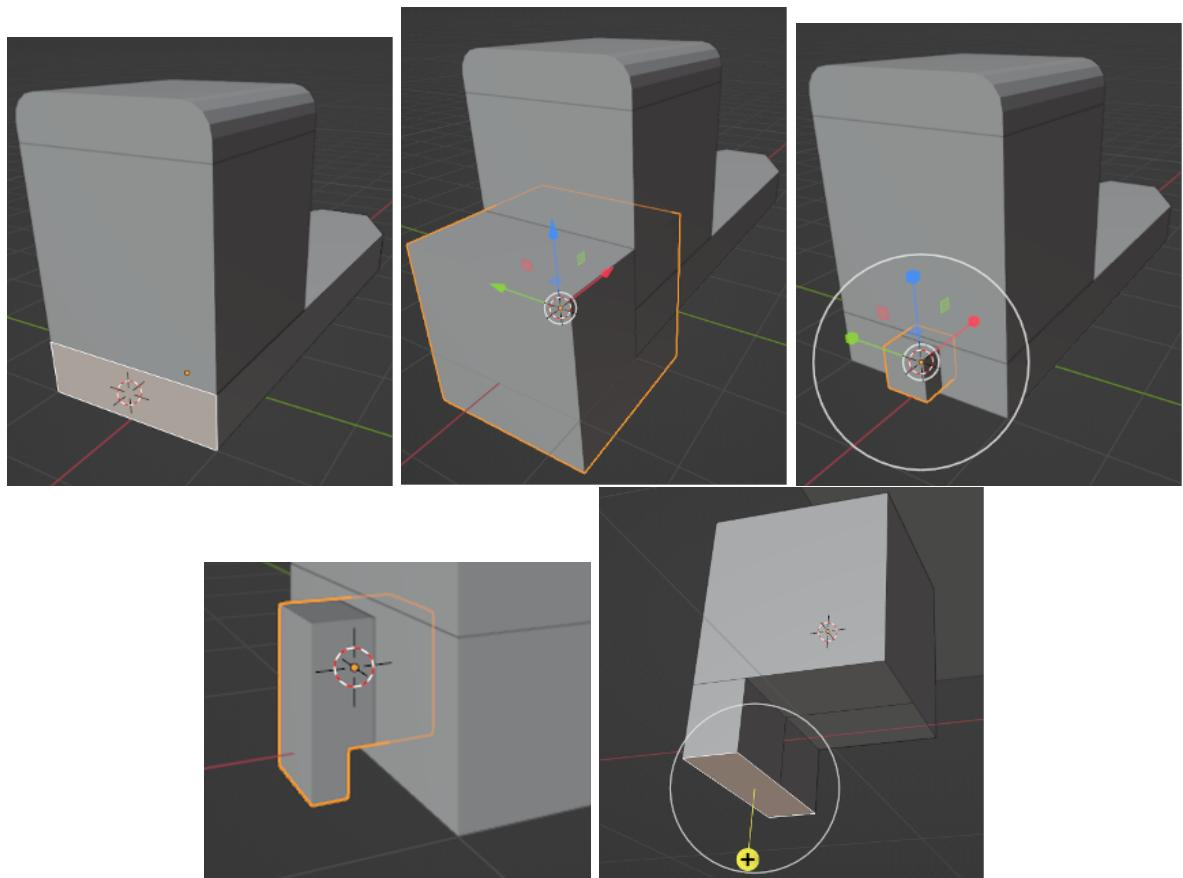

Figure 1.26: Modeling of the connector.
- (f) In *Object Mode*, select the platform and go to *Edit Mode*, where select its rear vertical face. Then put a 3D Cursor there via *Mesh/Snap/Cursor to Selected*. Go back to *Object Mode* and add a new cube object (it will position itself at the 3D Cursor location). The added cube is scaled (reduced) - it will be the basis of the element, similar to a connector (see Fig.1.26).
- (g) With the new cube object selected, go to *Edit Mode* and model the element as a connector (looking from the side, it should have the shape of an inverted L letter, to achieve this, add new grid lines and extrude on the outer part from the bottom) (see Fig.1.26).